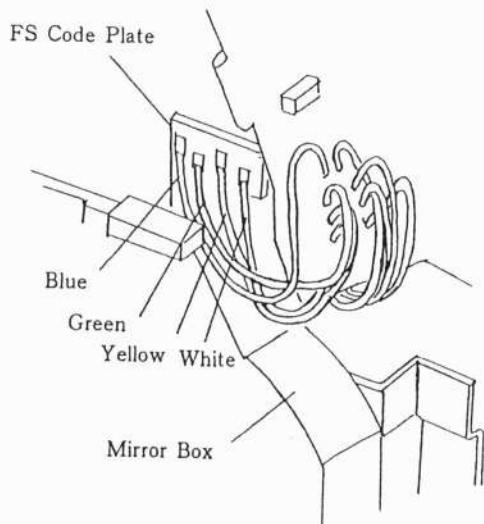

Fig. 91
- ⑤ From the Blue, Green, Yellow and White lead wires from the FS Code Plate as shown in Fig. 91 so that they do not get squeezed between the Mirror Box and the Top Cover.